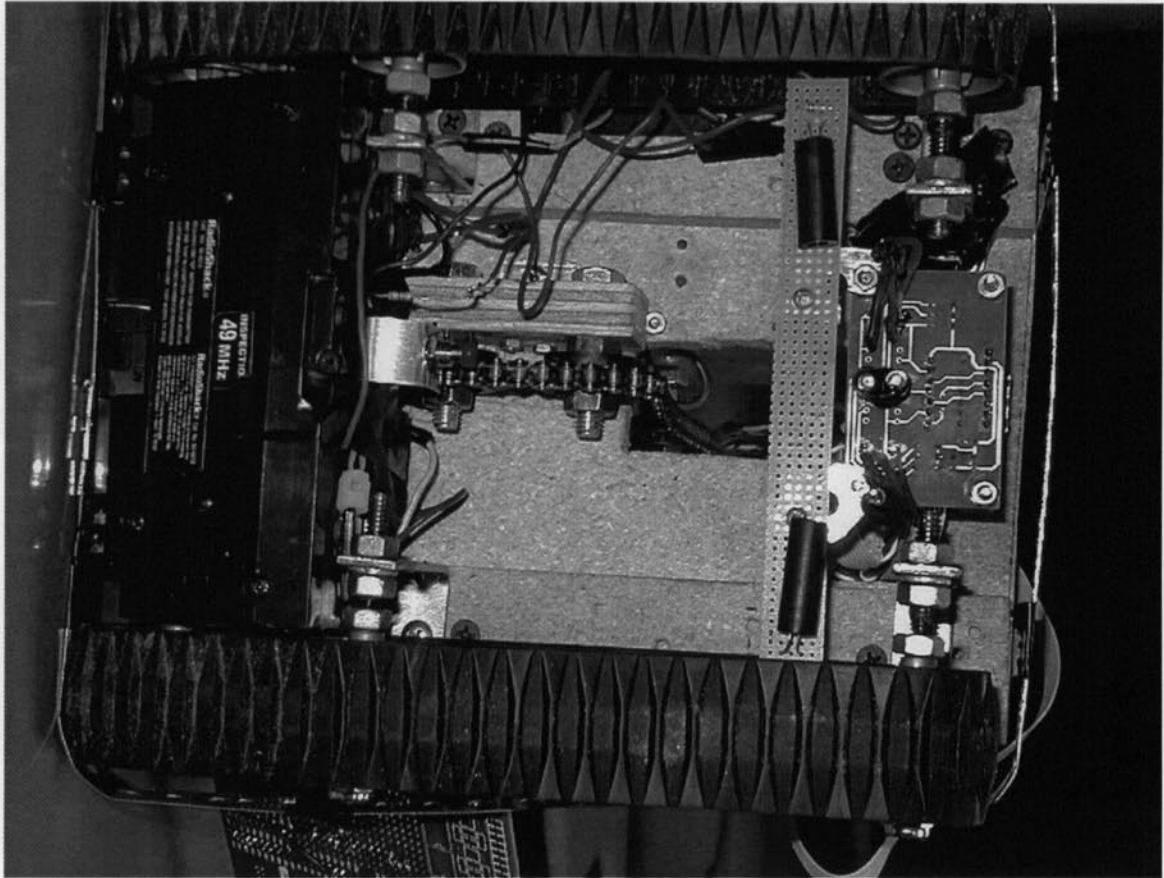

Fig. 5 – Bulldozer Drive System
- Connect the blue wire coming from the left motor underneath the robot to the terminal marked AB on the left end of the motor controller board. See Fig. 5.